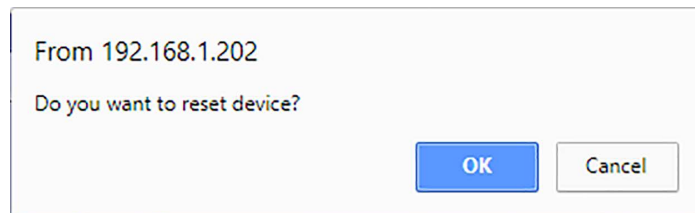

Figure 5-10 - Reset Device Dialog
3. Click **OK** to continue. The following dialog appears (see Figure 5-10):